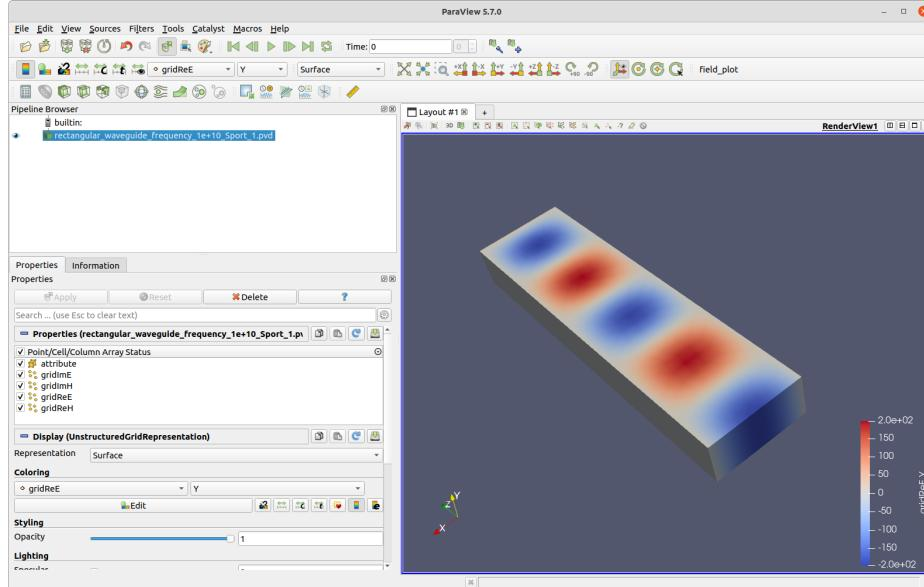

Figure 9:  $\text{Re}(E_y)$  for the rectangular waveguide when driven by port 1.
- Click on the box `Magnitude` and select `Y` to view the y-component of the electric field. A screen shot is shown in Fig. 9.